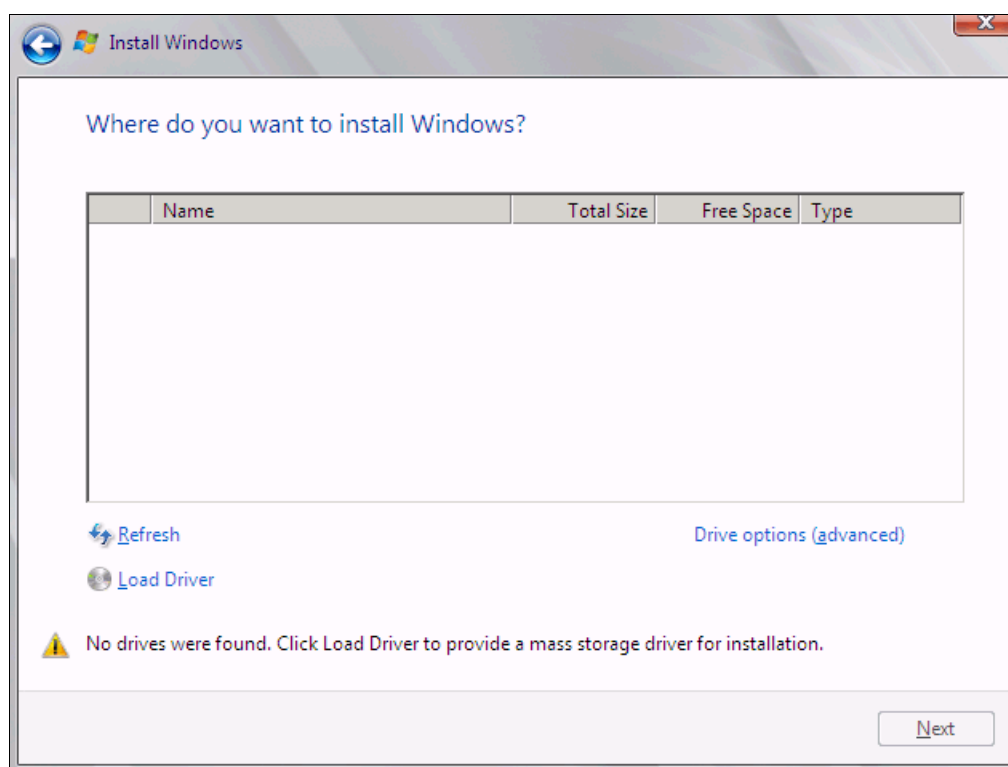

Figure 9-196 No disk shown
- 12.If no disks are displayed (Figure 9-196), insert the media that contains the drivers. The media can be in the form of a USB key, CD, or DVD, on a remotely mounted ISO. Then click **Load Driver** to load a driver for your storage device (Brocade card).